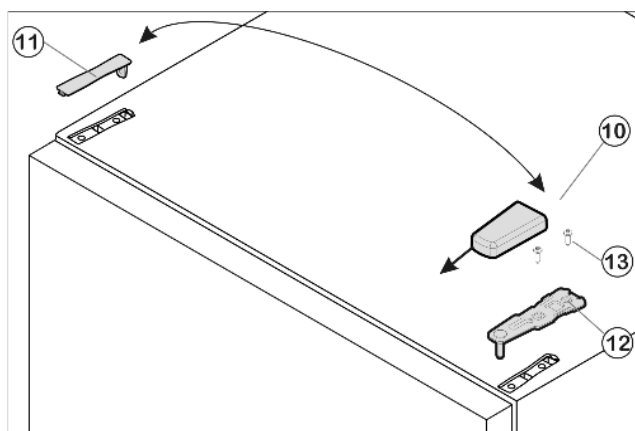

Fig. 20
- ▶ Pull cover Fig. 20 (10) forward and then upwards to remove.
- ▶ Lift off cover Fig. 20 (11).
- ▶ Unscrew upper bearing bracket Fig. 20 (12) (2 x Torx 25) Fig. 20 (13) and pull it upwards to remove.
- ▶ Insert the upper bearing bracket Fig. 20 (12) on the new hinge side into the door.
- ▶ Secure upper bearing bracket Fig. 20 (12) (2 x Torx 25) Fig. 20 (13). Make preliminary holes (optional) or use a cordless screwdriver.
- ▶ Snap both cover Fig. 20 (10) and cover Fig. 20 (11) into place on the opposite side.